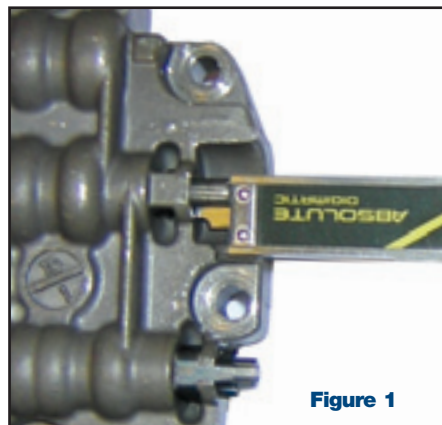

Figure 1
- Take and record a reference dimension from the end of the spring adjuster to the casting as shown in Figure 1. This measurement will be required when assembling the new valve assembly.